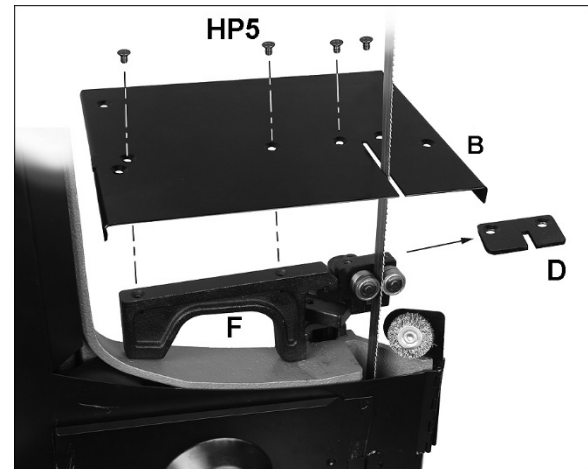

Figure 8-4: Installing Cutting Plate
- 6) Place smaller support (F, Figure 8-4) onto groove of blade guide, and adjust height of blade guide until support sits level on bow frame, as shown (**712D only**).
- 7) Remove deflector plate (D).
- 8) Install table plate (B) and secure with four screws (for 712D) or two screws (for 712).